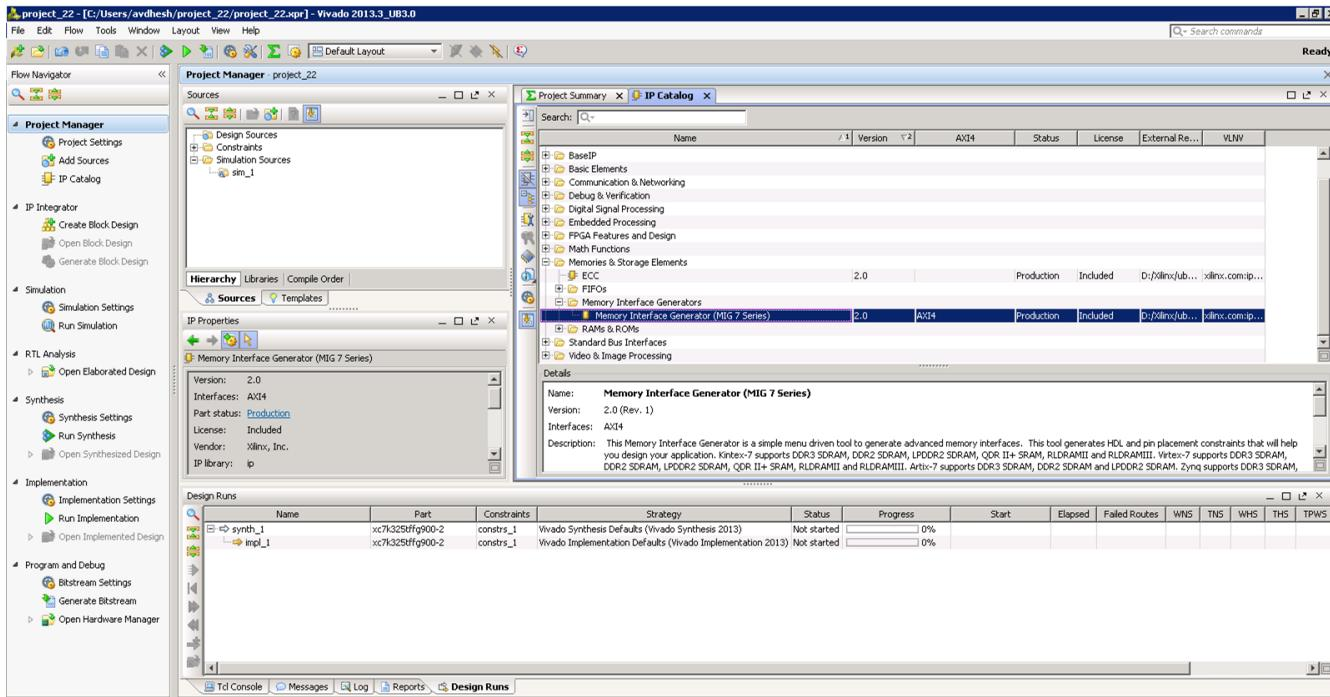

Figure 3-12: IP Catalog Window – Memory Interface Generator
11. Click **IP Catalog** on the **Project Manager** window to open the Vivado IP catalog window. The IP catalog window appears on the right side panel (see Figure 3-12, highlighted in a red circle).
12. The MIG tool exists in the **Memories & Storage Elements > Memory Interface Generators** section of the IP catalog window (Figure 3-12) or you can search from the Search tool bar for the string “MIG.”